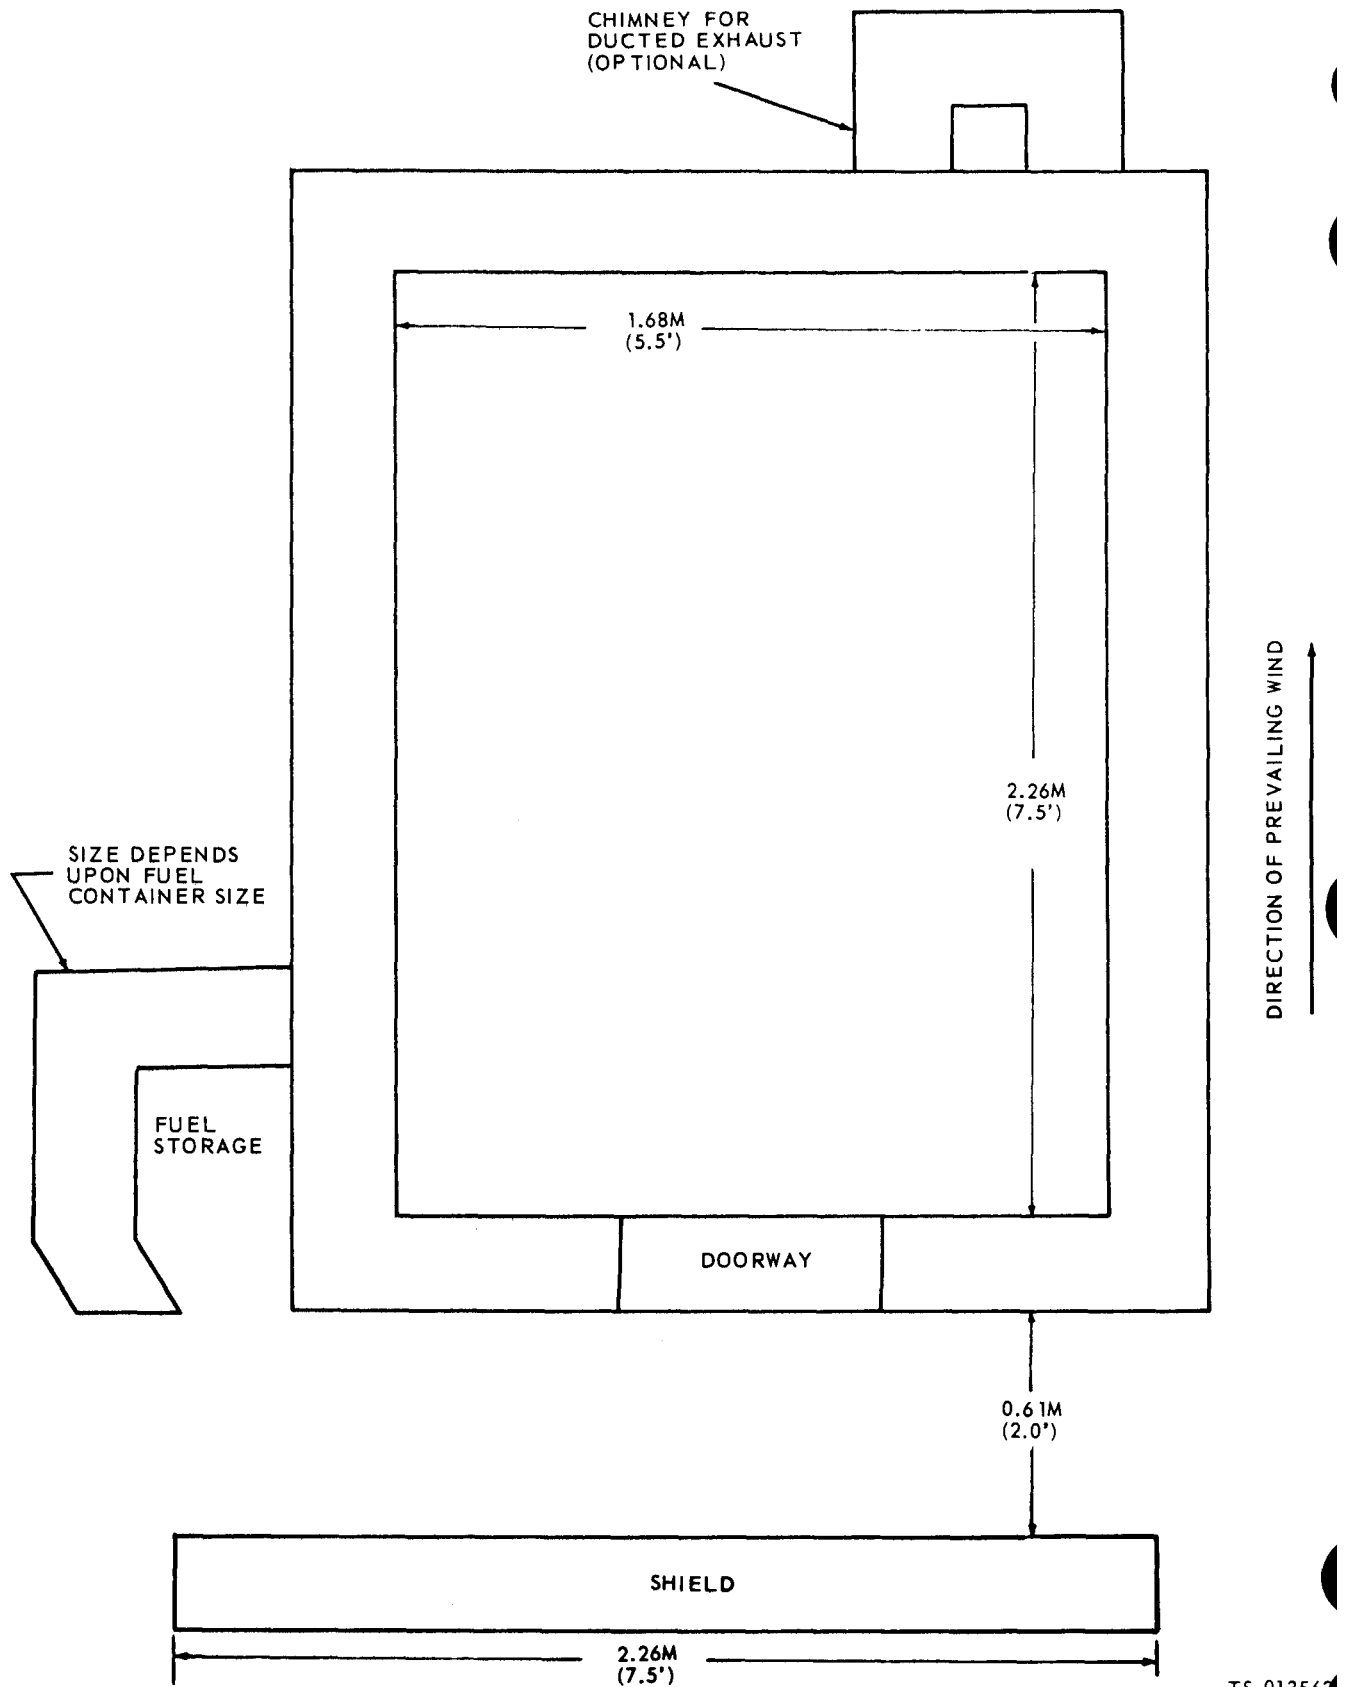

Figure 4-1 Revetment, top plan view.
b. *Dimensions.* The minimum allowable inside dimensions are shown in figures 4-1 and 4-2. The entrance to the revetment is shown in figure 4-3. These minimum dimensions are based solely on consideration of engine cooling and ventilation allowing a minimum practical amount of space for service and maintenance.
f. *Miscellaneous Construction.* A compartment should be constructed for fuel storage outside of the revetment as shown in figure 4-1. The size of the fuel storage area will depend upon the size of the fuel container being used. Since air temperatures within the revetment will build up considerably above the outside ambient when the generator set is operating, always locate the fuel supply outside the revetment to minimize safety hazards associated with gasoline at high temperatures. For the same reason, it is recommended that the integral fuel tanks, with which some generator sets are equipped, not be used. The exhaust from the generator set is to be ducted out of the revetment. The installation should be similar to that shown in figure 4-7. If flexible pipe is not available to use for an exhaust extension, a piece of exhaust pipe or any other similar material may be utilized. The point at which the exhaust discharges goes through the revetment wall depends entirely upon the equipment that is available. The exhaust may be discharged into an external exhaust chimney constructed as shown in figure 4-1. This chimney will aid in ducting the exhaust gases away from the revetment and will reduce the noise level. A revetment doorway shield must be constructed as shown in figures 4-1, 4-2, and 4-6. This shield is a wall 3 feet (0.91 meters) high and 7.5 feet (2.26 meters) long, constructed in a manner similar to the revetment walls to prevent direct entrance of projectiles or fragments through the doorway into the revetment.
g. *Alignment Instructions.* When constructing the revetment, the orientation of the revetment will be such that its entrance is facing into the direction of the prevailing wind (fig. 4-1). Each generator set will be located within the revetment so that its long axis is parallel to the long axis of the revetment and is centered within the revet-